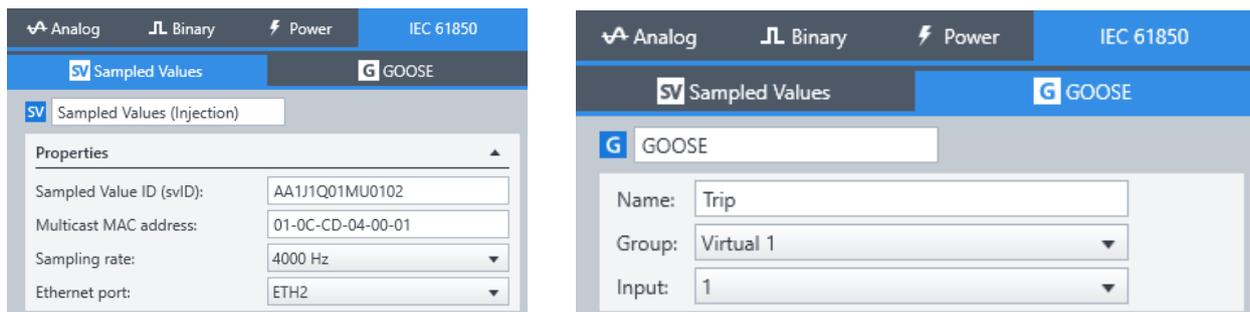

Figure 1: Sampled Values (left) and GOOSE (right) configuration settings in *EnerLyzer Live*.
The configuration of a Sampled Values System via the tab *Sampled Values* requires the setting of the *Sampled Value ID (svID)*, *Multicast MAC address*, *Sampling rate* and the connected *Ethernet port* of the CMC, as shown in Figure 1 (left).
2. Do the *EnerLyzer Live* settings for GOOSEs via the tab *IEC 61850 > GOOSE* according to the configured Test Universe *GOOSE Configuration* module. As shown in Figure 1 (right), this requires: